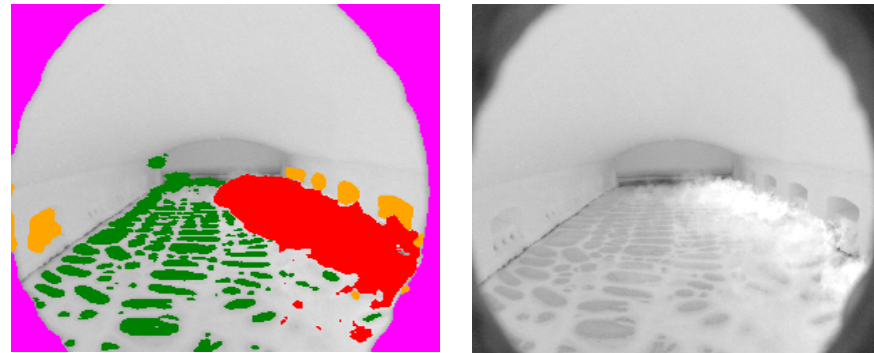

Figure 4. Multiple category segmentation and original image
- Figure 4: Results from a 4-category segmentation model.